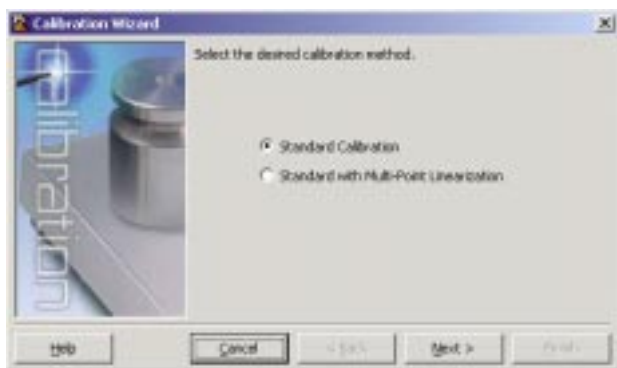

Figure 4-3. *iRev* Calibration Wizard
- On the first Calibration Wizard display (see Figure 4-3), select whether you are performing a standard (zero and span) calibration or a multi-point linear calibration. Click the *Next* button to continue.